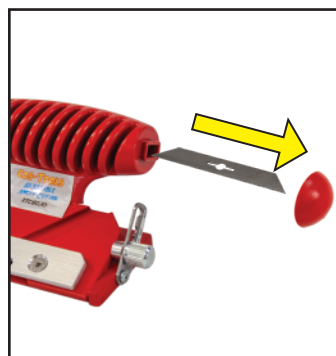

Fig 1
- 1 Remove the Blade Storage cover located at the tip of the handle, and take out a new blade (**Fig. 1**).